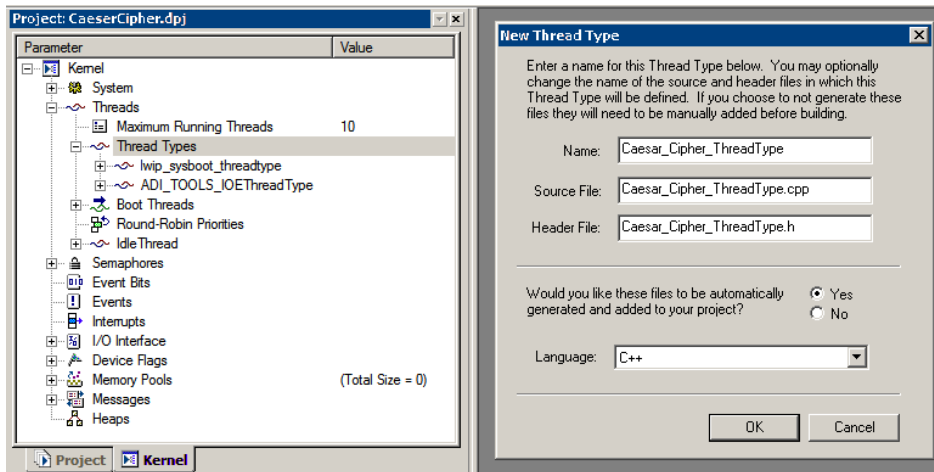

Figure 2-3. New Thread Type
1. From the **Kernel** page of VisualDSP++ **Project** window, navigate to **Kernel**→**Threads**→**Thread Types**. Right-click and select **New thread type**. Type `Caesar_Cipher_ThreadType` in the **Name** field, leave **Source File** and **Header File** as is, automatic source code generation as **Yes**, and leave the **Language** as **C++** (Figure 2-3).